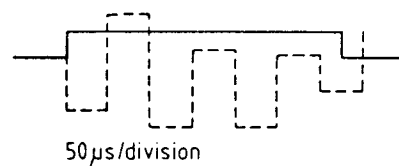

Fig. 4.12. L853 – before adjustment
- Adjust L853 until the detected black levels corresponding to the monochrome areas of the test pattern coincide with the clamped black level during horizontal (line) flyback period. See Figs. 4.12 and 4.13.